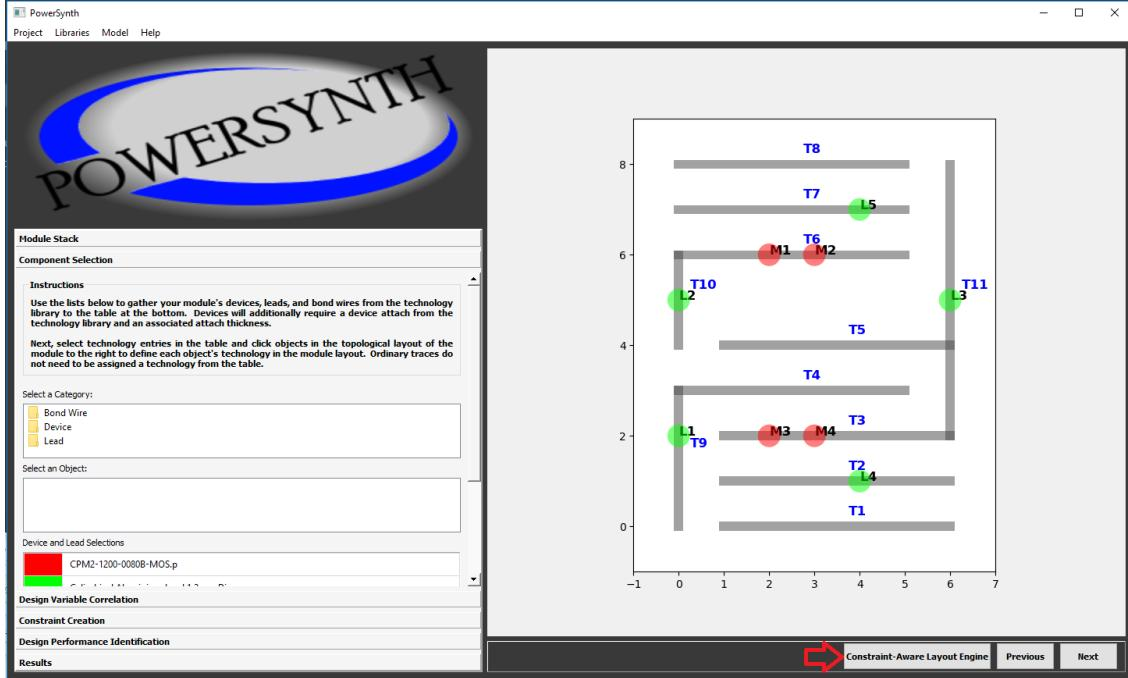
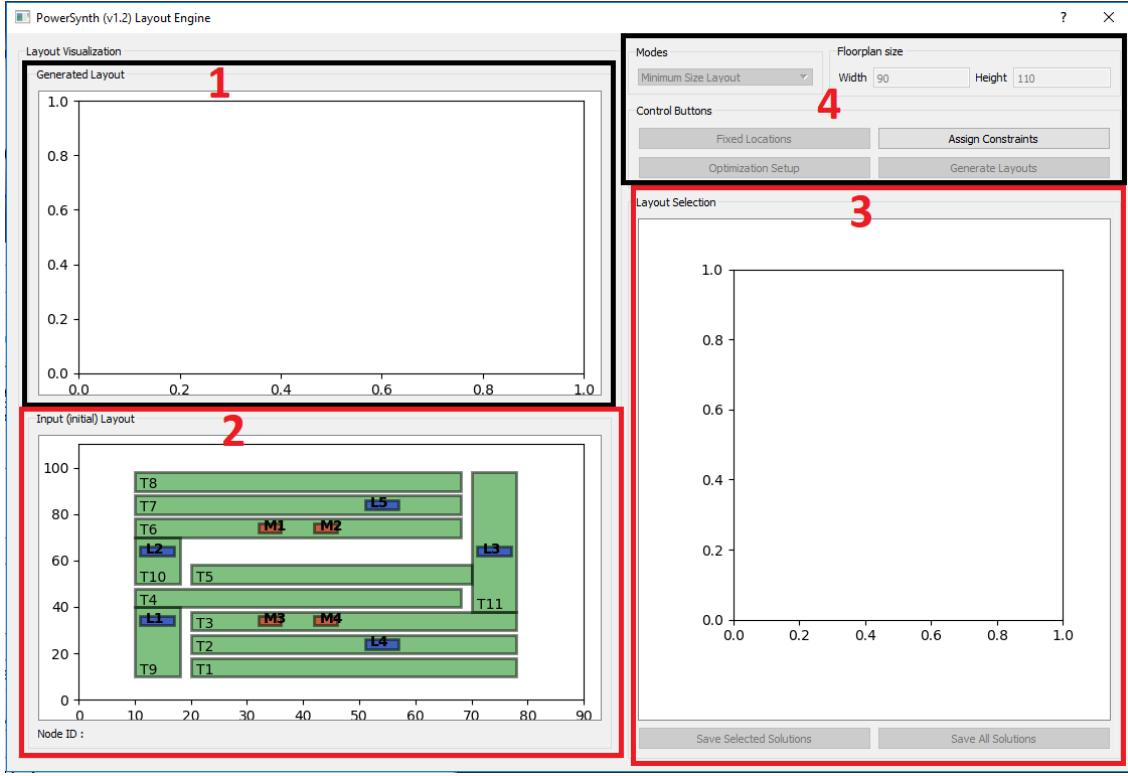

Figure 1: Entering into constraint-aware layout engine
Figure 2: New Layout Engine Window
To use this layout engine, the user must follow the steps up to 2.3.6. Then constraint-aware layout engine button will be enabled. Upon clicking on the button (marked with an arrow in Fig. 1) named “**Constraint-Aware Layout Engine**” the updated layout engine dialog will appear (shown in Fig. 2).
3. **Layout Selection:** This is the solution browser. Here, all solutions will be appeared as dots. Upon click on each dot corresponding layout will be shown in top left part (marked as 1 in the Fig. 2).